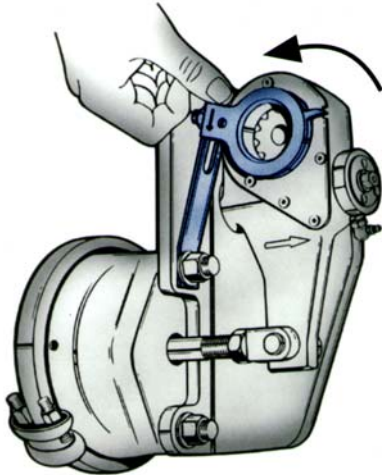

Figure 21 – Internal Stop
9. Rotate the control arm away from the adjusting hex toward the air chamber, until it comes to a definite internal stop (See Figure 21).